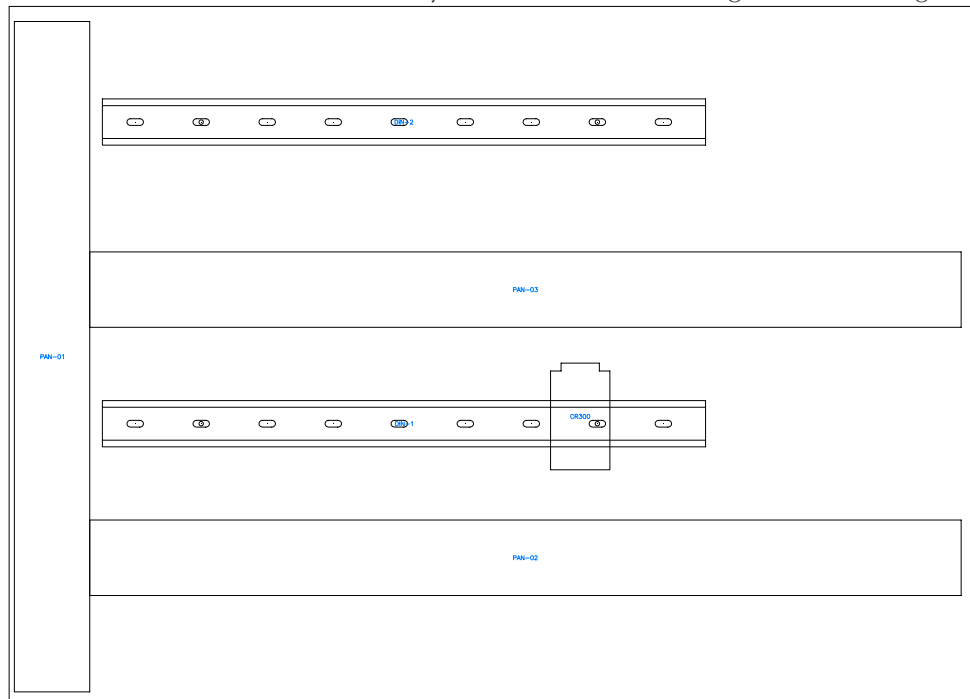

Figure P2-7 The CR300 relay inserted in the drawing
11. Choose the **OK** button; the CR300 relay is inserted in the drawing, as shown in Figure P2-7.